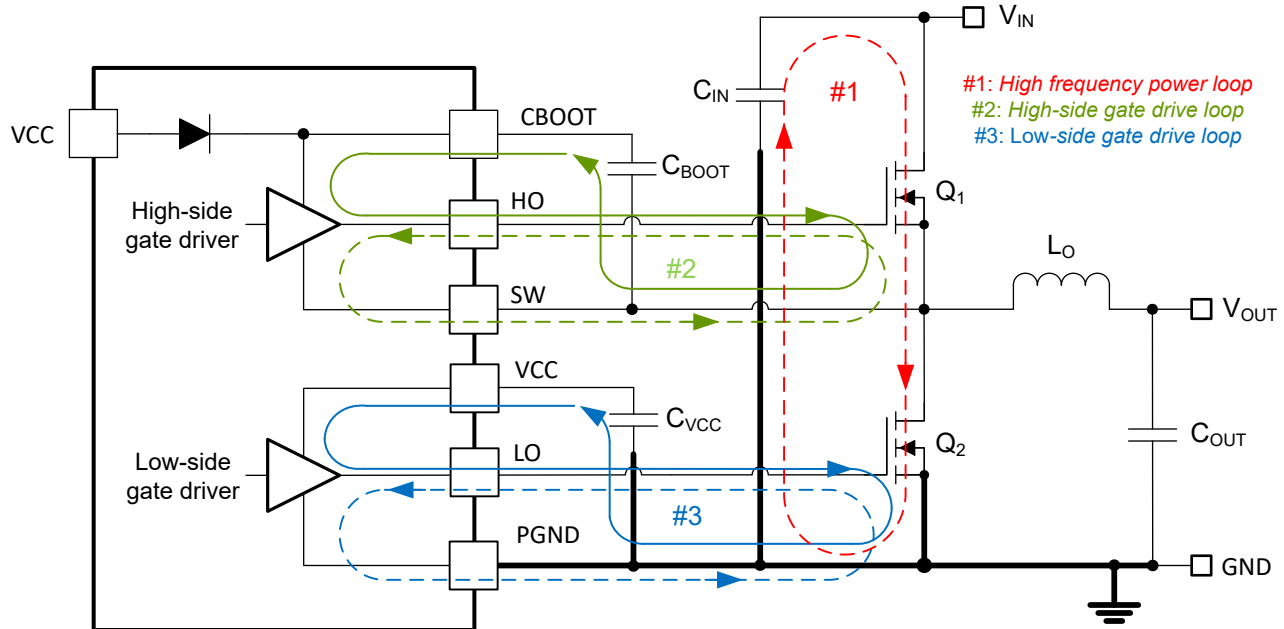

图 9-36. DC/DC Regulator Ground System With Power Stage and Gate Drive Circuit Switching Loops
Proper PCB design and layout is important in a high-current, fast-switching circuit (with high current and voltage slew rates) to achieve a robust and reliable design. As expected, certain issues must be considered before designing a PCB layout using the LM25149-Q1. The high-frequency power loop of a buck regulator power stage is denoted by loop 1 in the shaded area of 图 9-36. The topological architecture of a buck regulator means that particularly high di/dt current flows in the components of loop 1, and it becomes mandatory to reduce the parasitic inductance of this loop by minimizing its effective loop area. Also important are the gate drive loops of the high-side and low-side MOSFETs, denoted by 2 and 3, respectively, in 图 9-36.
- Loop 1: The most important loop area to minimize is the path from the input capacitor or capacitors through the high- and low-side MOSFETs, and back to the capacitor or capacitors through the ground connection. Connect the input capacitor or capacitors negative terminal close to the source of the low-side MOSFET (at ground). Similarly, connect the input capacitor or capacitors positive terminal close to the drain of the high-side MOSFET (at  $V_{IN}$ ). Refer to loop 1 of 图 9-36.
5. The SW pin connects to the switch node of the power conversion stage and acts as the return path for the high-side gate driver. The parasitic inductance inherent to loop 1 in 图 9-36 and the output capacitance ( $C_{OSS}$ ) of both power MOSFETs form a resonant circuit that induces high frequency (greater than 50 MHz) ringing at the SW node. The voltage peak of this ringing, if not controlled, can be significantly higher than the input voltage. Make sure that the peak ringing amplitude does not exceed the absolute maximum rating limit for the SW pin. In many cases, a series resistor and capacitor snubber network connected from the SW node to GND damps the ringing and decreases the peak amplitude. Provide provisions for snubber network components in the PCB layout. If testing reveals that the ringing amplitude at the SW pin is excessive, then include snubber components as needed.
- Loop 2: high-side MOSFET, Q1. During the high-side MOSFET turn-on, high current flows from the bootstrap (boot) capacitor through the gate driver and high-side MOSFET, and back to the negative terminal of the boot capacitor through the SW connection. Conversely, to turn off the high-side MOSFET, high current flows from the gate of the high-side MOSFET through the gate driver and SW, and back to the source of the high-side MOSFET through the SW trace. Refer to loop 2 of Figure 9-36.
- Loop 3: low-side MOSFET, Q2. During the low-side MOSFET turn-on, high current flows from the VCC decoupling capacitor through the gate driver and low-side MOSFET, and back to the negative terminal of the capacitor through ground. Conversely, to turn off the low-side MOSFET, high current flows from the gate of the low-side MOSFET through the gate driver and GND, and back to the source of the low-side MOSFET through ground. Refer to loop 3 of Figure 9-36.